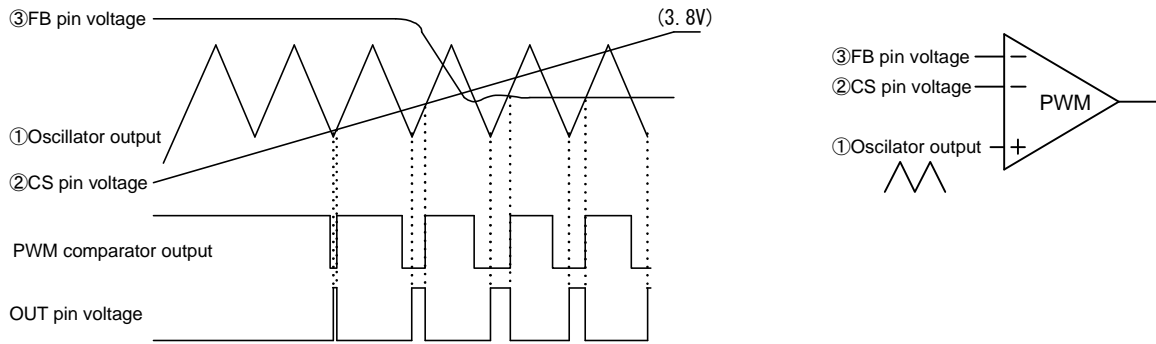

Fig.6
Fig.6 shows the PWM comparator timing chart. The PWM comparator has three inputs. Oscillator output ① is compared with CS pin voltage ② and FB pin voltage ③. The lower of two inputs ② and ③ has priority and compared with oscillator output ①. While the voltage is lower than the oscillator output, the PWM comparator output is high. While the voltage is higher than the oscillator output, the PWM comparator output is low.
When the power is turned on, the constant current source (10μA) begins to charge capacitor Ccs. Because of that, the CS terminal voltage gradually increases as shown in Fig.6. The CS pin voltage is connected to the PWM comparator, which is characterized to make output based on the lowest of input voltages. The device enters soft-start mode while the CS pin voltage is between 1.0V and 3.0V. During normal operation, the CS pin voltage is clamped at 3.8V by internal zener diode. If the output voltage drops due to an overload and the VF pin voltage become 3V or less, the clamp voltage 3.8V is canceled and the CS pin voltage rises. The CS pin voltage is oscillate between 3.8V and 5.7V, and determined the time ratio of OLP hiccup.